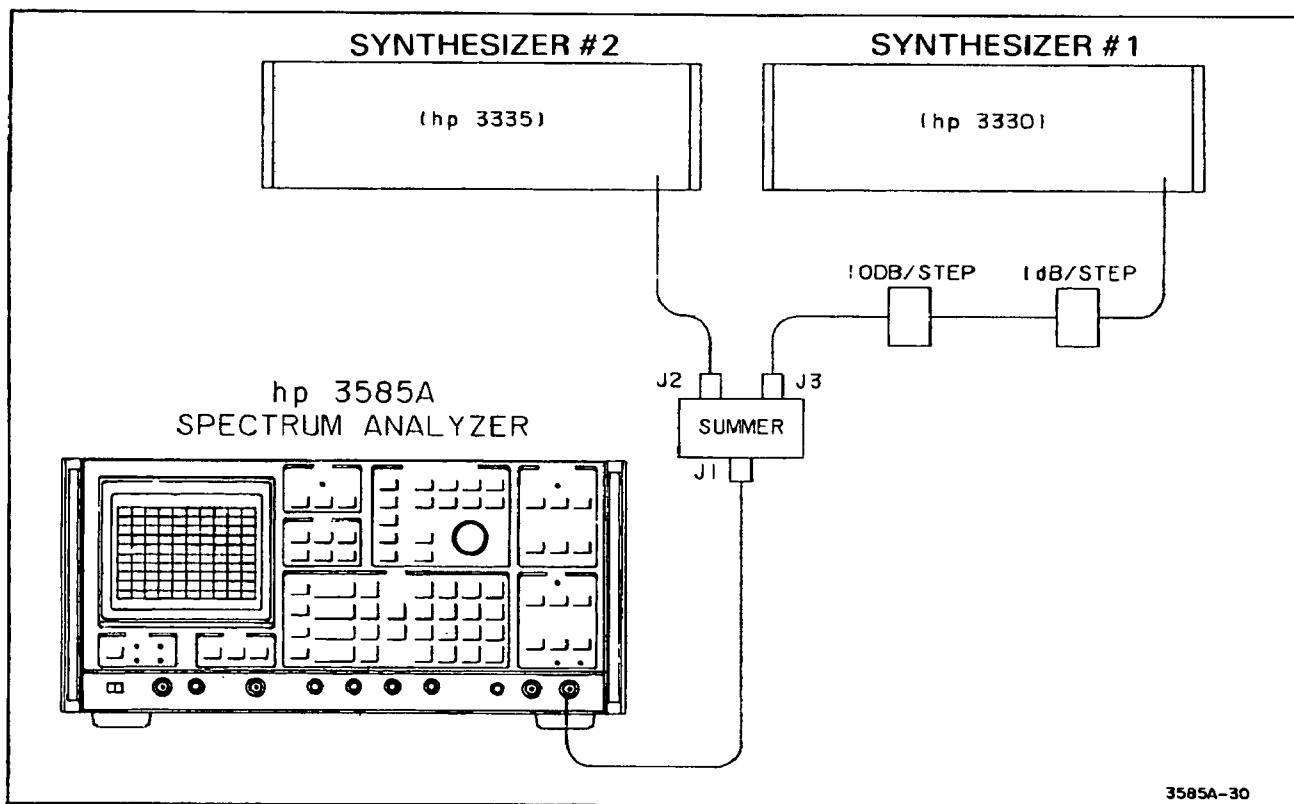

Figure 4-23. Intermodulation Distortion Test.
- b. Connect synthesizer #1 and #2 to the summer as shown in Figure 4-23. Connect the output of the summer to the 50Ω input of the 3585A. Set the attenuators for 0 dB of attenuation.